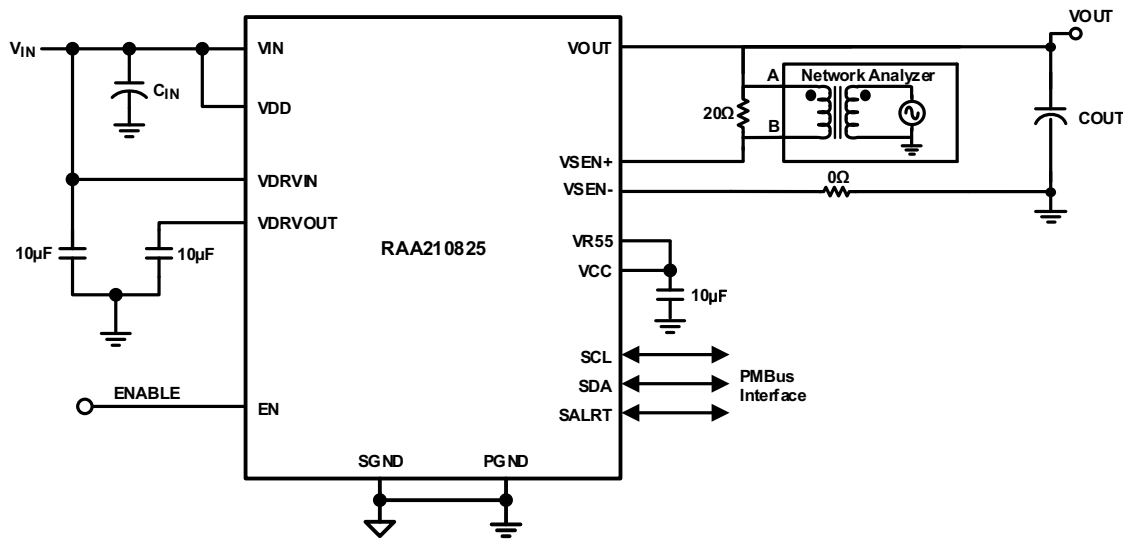

Figure 2. Network Analyzer
- (1) Break the feedback loop by removing the R₉ resistor in the remote sense path, connected between VSEN+ and VOUT.
- (2) Solder a 20 Ω resistor in its place. The value of the resistor could be in the range of 10 Ω to 50 Ω .
- (3) Solder a twisted wire pair to the 20 Ω resistor. Ensure that the wires are short in length. A small twisted pair works well by minimizing noise pickup, which is important for a good measurement.
- (4) Enable the module.
- (5) Use a “Network Analyzer” to inject a small AC signal (~20mV) across the 20 Ω resistor as shown in Figure 2.
- (6) Measure the amplitudes of the signals at points A and B as shown in Figure 2.
- (7) Sweep the frequency using the “Network Analyzer” to observe the bandwidth, phase, and gain margin.